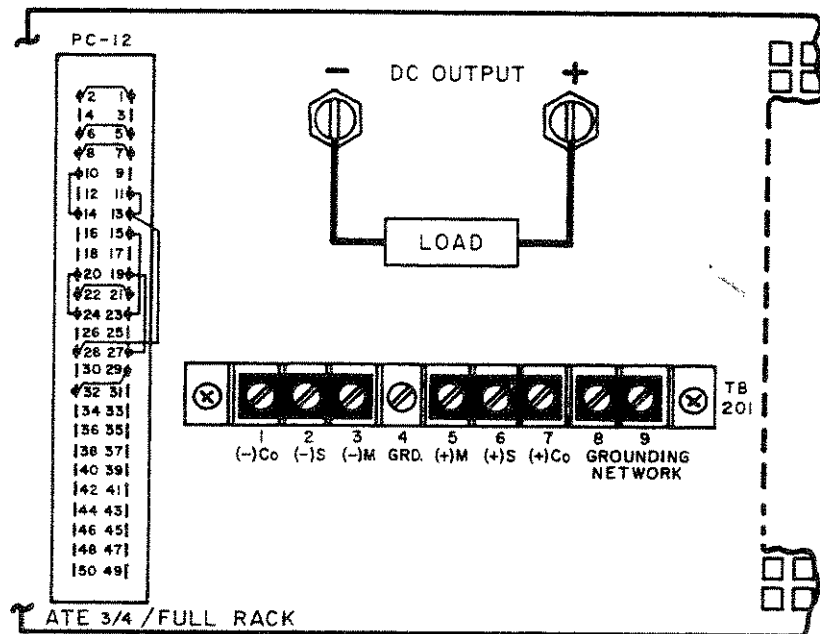

FIG. 3-3 LOAD CONNECTION METHOD I, LOCAL ERROR SENSING.
- 3-20 (Refer to FIG. 3-3). The most basic power supply interconnection, to primarily resistive, relatively constant loads, located close to the power supply, or for loads requiring stabilized current exclusively, consists of 2-wire connection from the rear output terminals. Load wire is selected as described previously (refer to par. 3-15). The load leads should be tightly twisted to reduce "pick-up" from stray magnetic fields. After the grounding rules have been applied (refer to par. 3-3 to 3-11), the power supply can be connected to the a-c source and operation may commence.